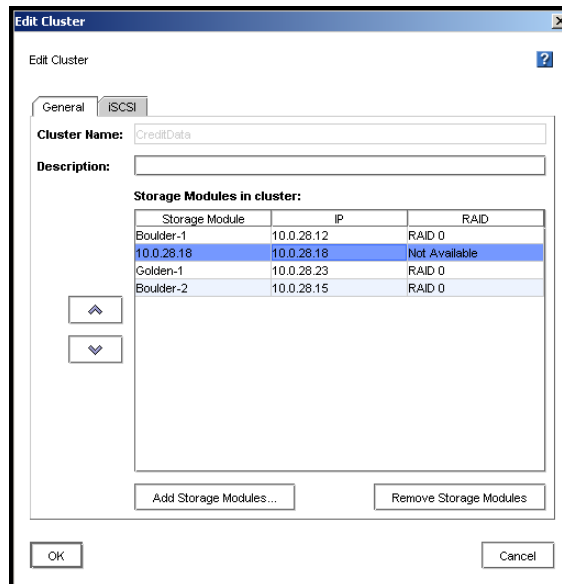

Figure 146. Removing the Ghost Storage Module from the Cluster
1. In the Edit Cluster window, shown in Figure 146, remove any storage modules in the list that are **below** the ghost storage module.